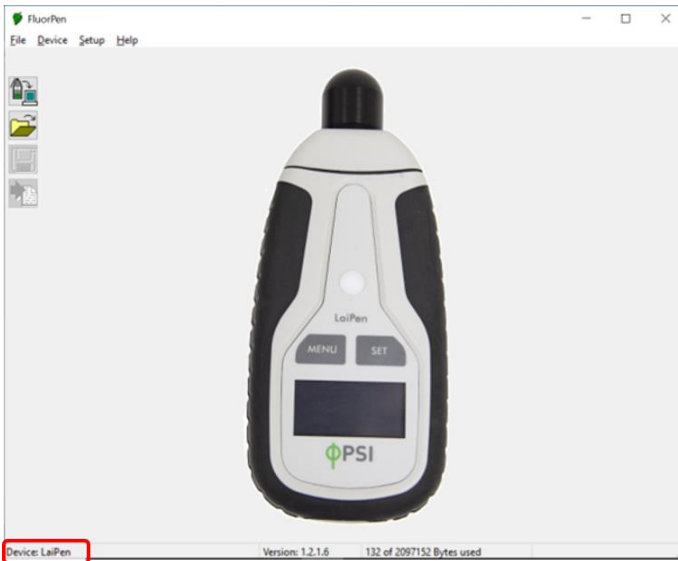

Fig. 19 Connecting LaiPen to software.
- In the software select: Setup > Device ID (Ctrl+I). If properly connected, the message “Device: LaiPen” appears in the bottom left corner of the FluorPen window (Fig. 19). If the connection fails then the message “Device not found” appears. In this case check all the connectors or the Bluetooth pairing.